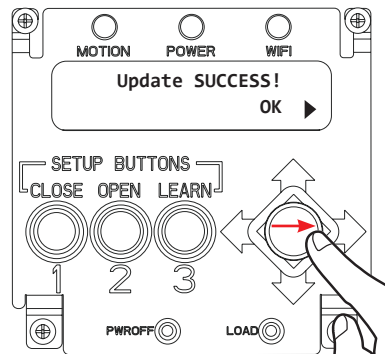

Figure 55
7. Press the joystick to the right to continue. (Figure 55)